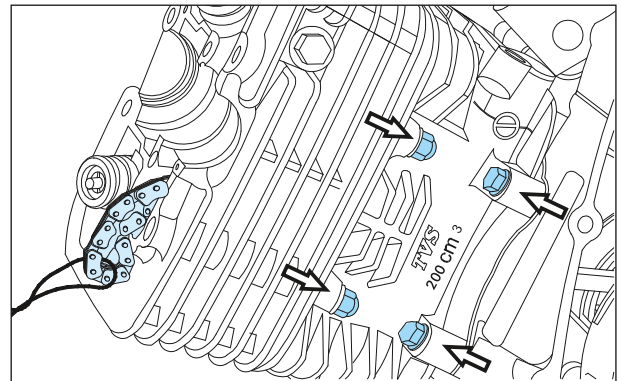

Fig. 3.57
- Similarly, remove the hexagonal bolts (M6X20 - 2 nos.) fastened to cylinder block complete and crankcase complete R (Fig. 3.57)